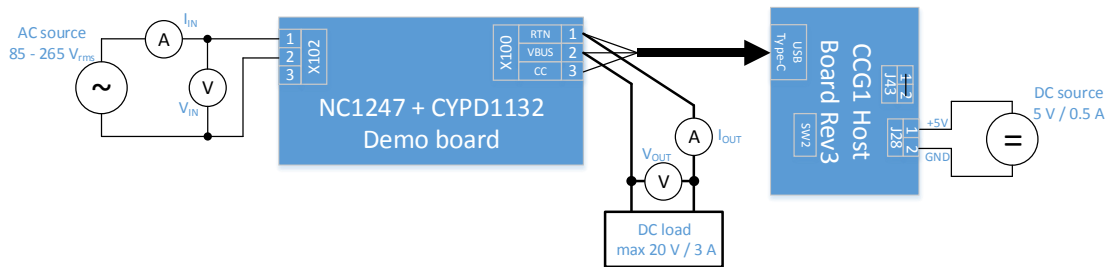

Figure 1: Test Setup
1. Connect the test setup as shown in Figure 1. Don't connect the CCG1 Host Board Rev3 with USB Type-C cable.